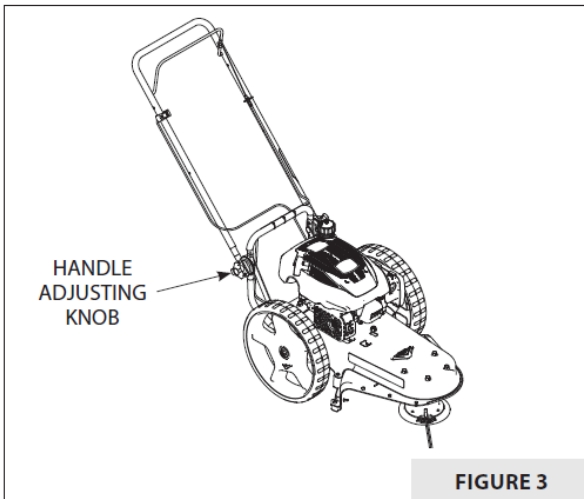

FIGURE 3
4. Tighten the handle adjustment knobs. Make sure the handle pivots are locked in place. **SEE FIGURE 3.**